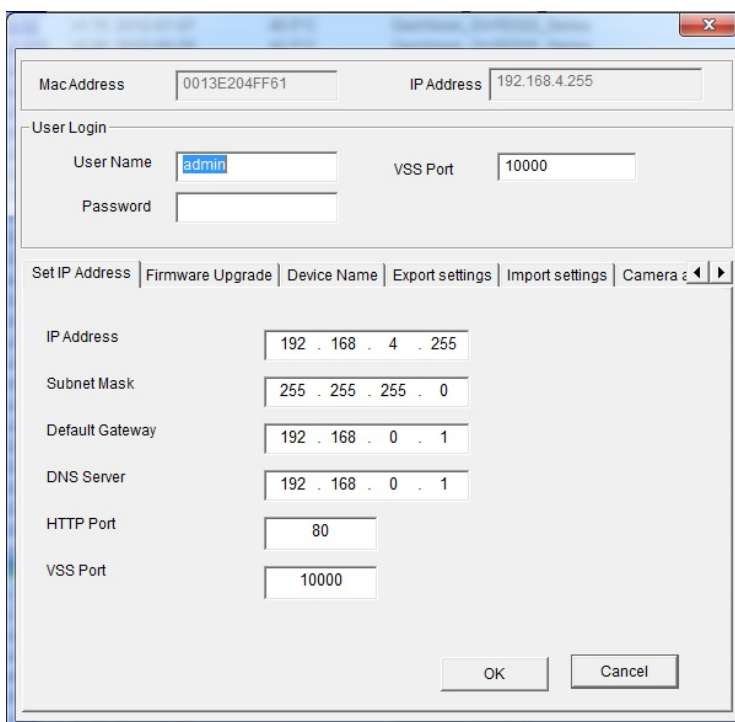

Figure 7-4
2. Double-click the GV-IP Speed Dome in the list. Figure 7-4 appears.
1. In Figure 7-4, click the **Import Settings** tab. This dialog box appears.